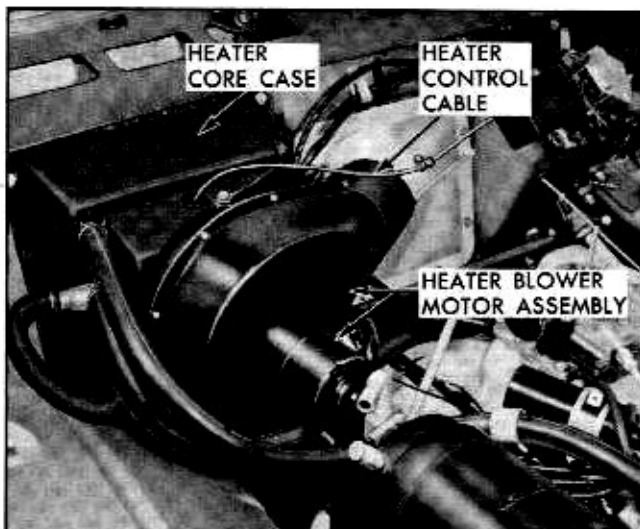

Fig. 12-2 Heater Assembly
2. Remove two hoses from temperature control valve (Fig. 12-2).